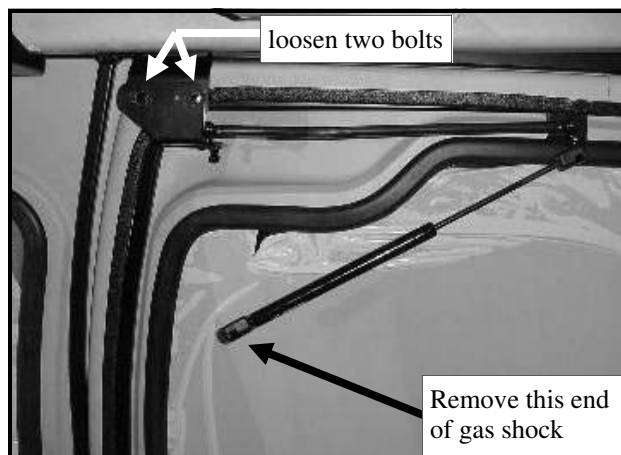

Fig. 8.1 (view from inside of driver's side door)
8.1 Per fig. 8.1, remove the sideframe end of the gas shock by releasing the metal clip and pulling the housing off the pivot ball. Loosen the two top pivot bolts.